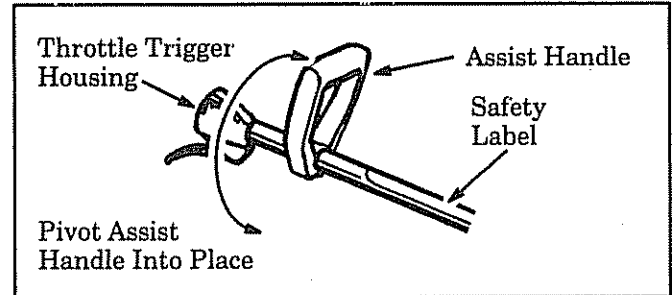

Figure 2
2. Pivot the assist handle into place. Make sure the assist handle is located *between* the throttle trigger housing and the safety label on the tube. Figure 2.
CAUTION: When adjusting the assist handle for comfort, be sure assist handle remains between throttle trigger housing and the safety label on the tube. Figure 2.